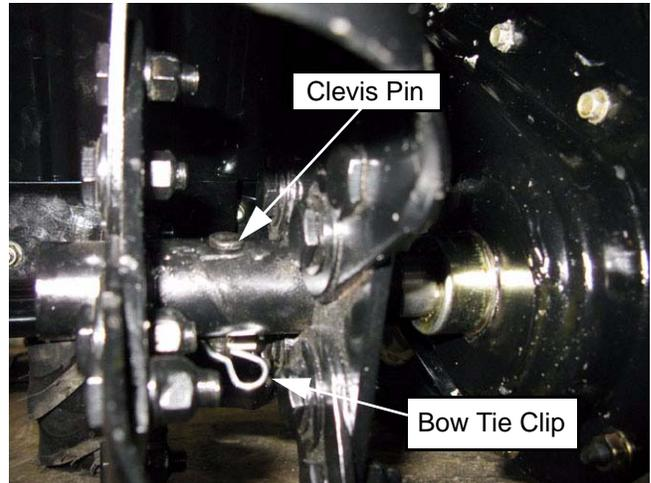

Figure 6.3
4. Remove the clevis pin and bow tie clip that secures the tine assemblies to the tine shaft on the transmission. See Figure 6.3.